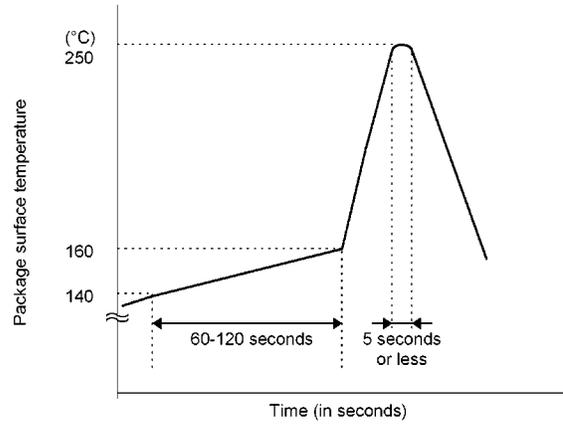

Figure 3.5.5 Sample temperature profile for solder flow
- (1) Apply preheating for 60 to 120 seconds at a temperature of 150°C.
- (2) For insertion-type packages, complete solder flow within 10 seconds with the temperature at the stopper, or at a location more than 1.5 mm from the body if there is no stopper, which does not exceed 260 °C.
- (3) For surface mount packages, complete soldering within 5 seconds at a temperature of 250 °C. or less in order to prevent thermal stress in the device.
- (4) Figure 3.5.5 shows an example of a recommended temperature profile for surface mount packages using solder flow.